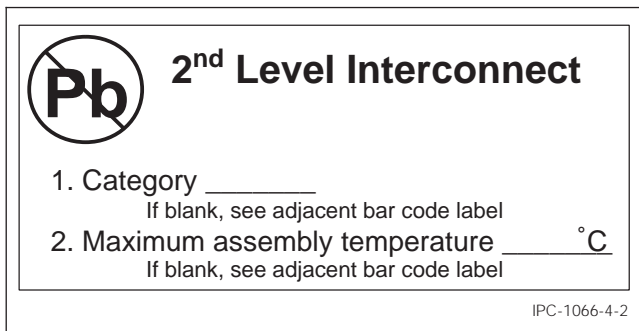

Figure 4-2 2nd Level Interconnect Label
**3.2 2nd Level Interconnect Label** A label identifying the lowest level shipping container as containing components capable of Pb-free 2nd level interconnects. This includes the Pb-free symbol, Pb-free category and the maximum assembly temperature (see Figure 4-2). If no label or marking is included, a tin-lead finish is assumed.
If space permits the individual device/component **shall** be marked with the category designation enclosed within a circle/ellipse (see Figure 4-5). If the individual component cannot be marked, the category **shall** be indicated on the lowest-level shipping container utilizing the 2nd Level Interconnect Label (see Figure 4-2) and/or bar code label as noted in 3.3.
**8.3 2nd Level Interconnect Label** This label (see Figure 4-2) indicates that the 2nd level interconnect terminal finish/material of components and/or the solder paste/solder used in board assembly is Pb-free, per the categories defined in 5.1. It **shall** be placed/printed on the lowest level shipping container and any “ESD” or “Dry pack” bag/box, excluding tubes, trays or other carriers, within the